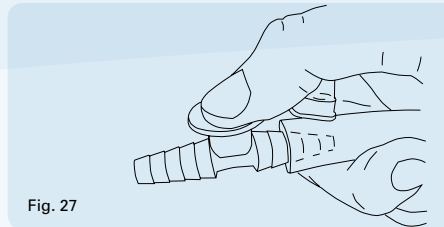

Fig. 27
2. Control the aspiration procedure and the desired vacuum using the additional air opening on the fingertip (fig. 27).